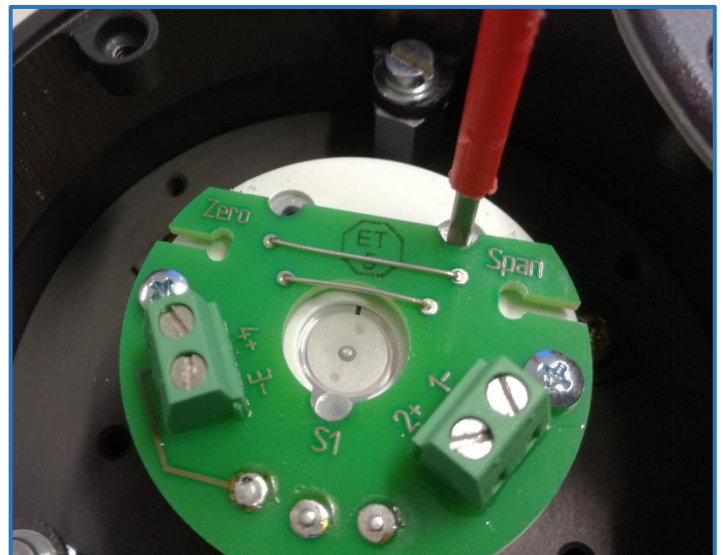

Figure 4 – Adjusting the Span potentiometer to get a RT-2 output of 18,22 mA.
3. Make same adjustment on the *span* potentiometer with rudder at full starboard (see figure 4).